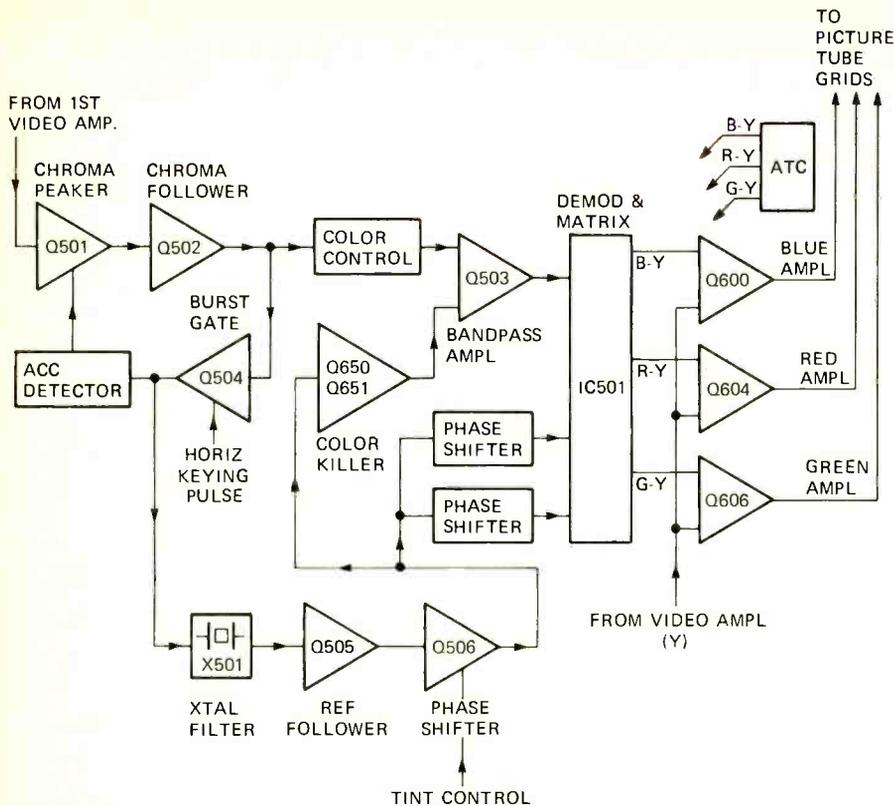
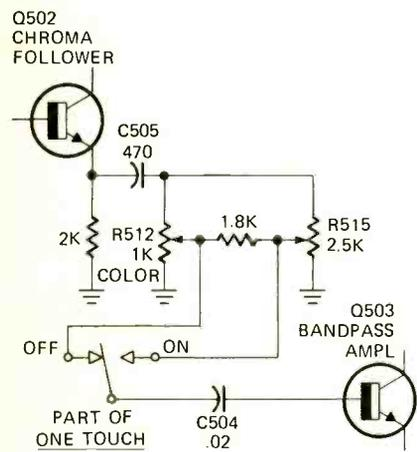
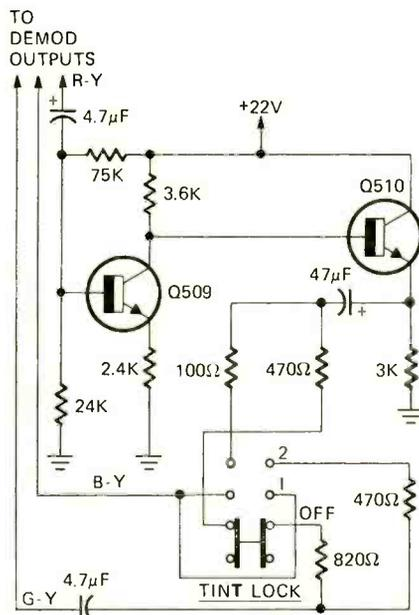

FIG. 7—GE COLOR PROCESSOR is used in many '73 chassis. The "One-Touch" circuit includes TINT, COLOR controls and the TINT LOCK circuit.
FIG. 8—CLOSE-UP OF COLOR CONTROL used in GE JA chassis. This is a part of the "One-Touch" color system.
FIG. 10—TINT-LOCK CIRCUIT changes the color difference matrixing in the right ratios to reduce the Q component in GE color sets.
**General Electric**—The "*One Touch Color*" system is featured on their JA 10- 16- and 19-inch sets and the MA 25-inch modular chassis. Fig. 7 is the block diagram of the JA one-chip (IC) color processor with Figs. 8, 9 and 10 showing the color control, tint control and Tint Lock circuits. In the GE system when *One Touch* is turned on, a neon lamp is lit, the color and tint ranges are narrowed and apc is enabled. The tint correction scheme called *Tint Lock* is activated by a separate switch with two degrees of correction selectable. The color control is prejudiced by the setting of the 2.5K pot in Fig. 8 when *One Touch* is activated. The color control now has a more limited range and while the control is going to be closer to normal setting if misadjusted, some range of control is left in the user's hands. The tint control works similarly with a reduced range by switching some resistors. Incidentally note that this receiver uses a RGB system where the luminance or Y signal is combined with the color difference signals ahead of the picture tube. The *Tint Lock* system works by switching in a two stage matrixing amplifier as shown in Fig. 10. This changes the color difference matrixing in the right ratios to reduce the Q component.